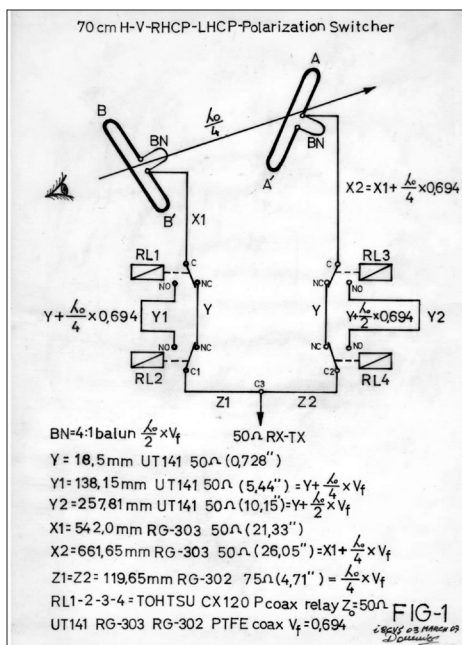

Figure 1: Switcher schematic.
In this polarization switcher (Figure 1) the needed phase difference (ϕ) is determined only by the electrical length λ_e of the coaxial cables and it is not necessary to take the delay time of the relays into consideration, as long as they are identical in each branch, i.e., if both pairs of relays, even if built by a different manufacturers, have the same electrical length.
This switcher has been designed and built around an existing 70 cm antenna (the KLM 435-40CX), but any other type of crossed Yagi can be used provided the elements are physically spaced over the boom by $1/4\lambda_0$ (Figure 1).
The schematic diagram in Figure 1 shows the new polarization switcher with relays RL1 and RL2 feeding the rear dipole via coax cable X1 and relays RL3 and RL4 feeding the front dipole via coax cable X2.
RL3+Y+RL4. The internal length of the relays plus that of the joining coax Y do not change the effective electrical length λ_e on delay lines Y1 and Y2 because switching the system to any polarization mode, as shown in Figure 1, the same common length of 18.5 mm for coax Y is entered into the circuit of X1 and X2 in any switching condition when relays are energized or not energized.
Referring to Figure 1, the rear dipole B-B' and the front dipole A-A' are spaced in free space along the boom by $1/4 \lambda_0$. Looking the dipoles standing behind the antenna as indicated in the drawing we see that the center lead of X1 feeding the rear dipole B-B' is connected to side B' for a rear observer while the center lead of X2 feeding the front dipole A-A' is connected to side A and it is anticipated that the indicated polarizations of H-V-RHCP-LHCP in this switcher can be generated only if the above mentioned connections of the coax center leads to the dipole studs as seen from the back reflectors are made according to Figure 1.
how the linear and circular polarizations are generated, the rear dipole B-B' in the drawing Figure 2A is represented horizontally and the front dipole A-A' vertically, but in real operation, to show the horizontal and vertical polarizations, the elements of the antenna must be oriented 45 degrees to the boom in X configuration as in Figure 1 or in Figure 2F. More on this will be discussed later.
Since the elements are not cross-mounted but are X mounted as in Figure 2A over the boom as in Figure 1 or in Figure 2F it follows that when the antenna is in operation, the resultant vectors in Figures 2C and 2E are rotated by 45° clockwise with the boom and as shown in Figure 2F, the radiated field becomes horizontally polarized (H).